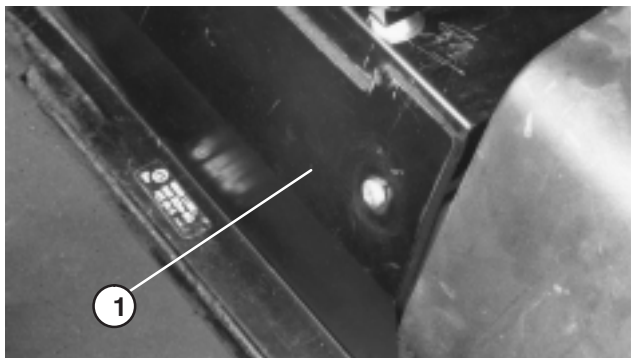

Figure 5
CHECK FRONT AXLE OIL LEVEL (Fig. 5 & 6)
2. Remove access panel (Fig. 5), in front of seat, to expose front axle / dipstick.